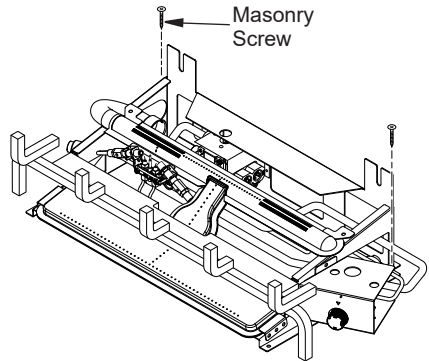

Figure 12 - Attaching Heater Base to Fireplace Floor
6. Attach base assembly to fireplace floor using two masonry screws provided in hardware package (see Figure 12).
2. Mark screw locations through holes in mounting brackets (see Figure 12). If installing in a brick-bottom fireplace, mark screw locations in mortar joint of bricks.